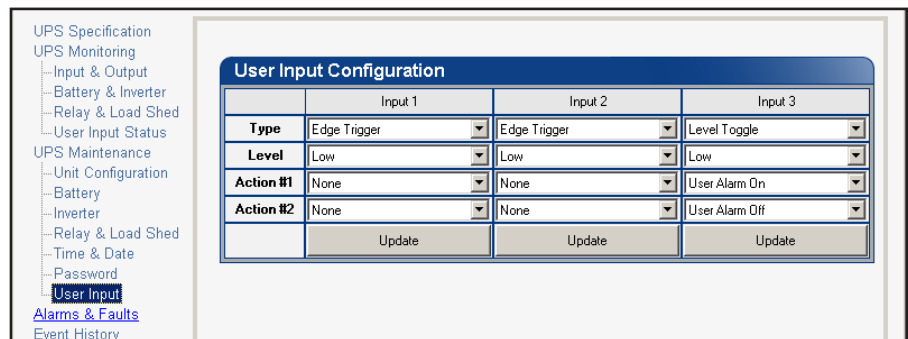

Figure 7.37 – UPS Maintenance: User Input screen
**User Input:** There are 3 programmable User Inputs and their functions are similar to the Dry Contact relays. Supported functions include (a) Shutdown, (b) User Alarm and (c) Self Test. (Figure 7.37)